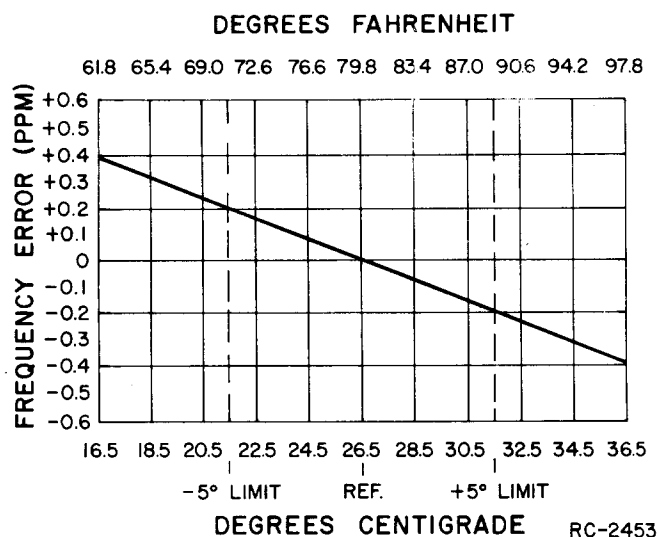

Figure 5 - ICOM Frequency Offset Chart
2. Maintain the radio at 26.5°C ($\pm 10^\circ\text{C}$) and offset the oscillator, as a function of actual temperature, by the amount shown in Figure 5.
- B. To hold setting error to ± 0.35 PPM (which is considered reasonable for 2 PPM ICOMS): Maintain unit at 26.5°C ($\pm 5^\circ\text{C}$) and offset the oscillator, as a function of actual temperature, by the amount shown in Figure 5.